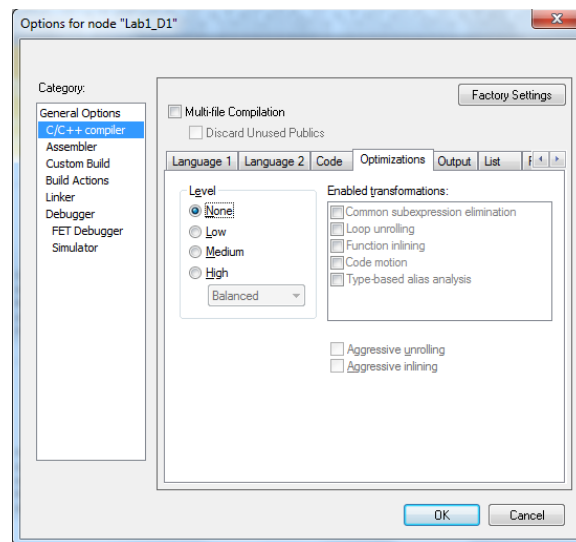

Figure 5. Setting C/C++ compiler options.
3.2. Select C/C++ Compiler in the Category list to display the compiler option pages (Figure 5).